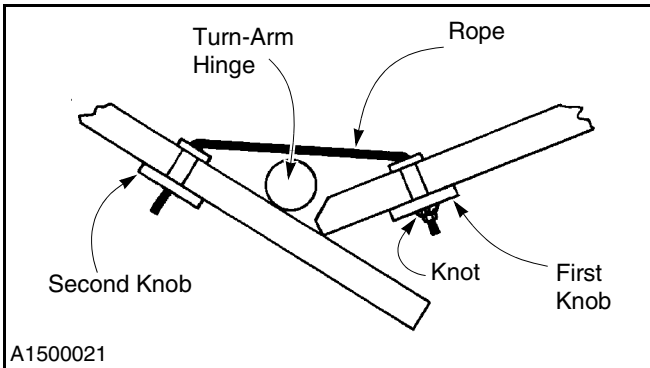

Figure 56
9. Feed the other end of the rope through the wide face of the first knob (the first knob is sandwiched between the overlapping panels with the door closed). Then feed the rope through the back of the adjoining knob in the opposite panel and pull the rope tight (with the panels closed). (See Figure 56.)